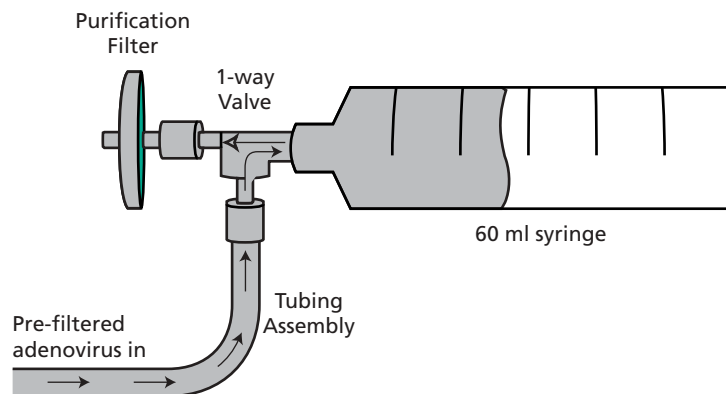

Figure 1. The Adeno-X™ Virus Syringe-Filter Assembly. The apparatus should be used under sterile conditions in a Biosafety Level 2 hood.
3. Place the Tubing Assembly in the virus-containing solution as shown in Figure 1.